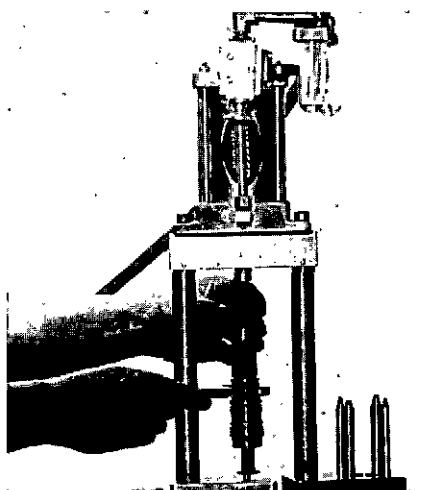

Fig. 2-38, (F60195). Install the retainer wrench on injector
10. Place the ST-995 Retainer Wrench on the injector retainer, Fig. 2-38.